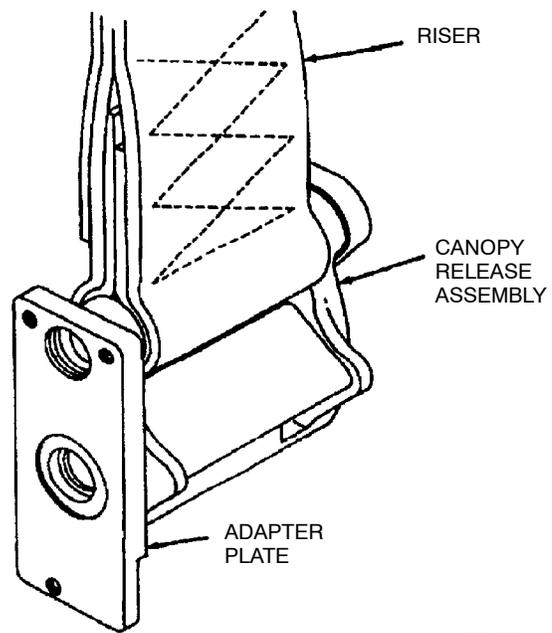

Figure 15. Placement of Riser and Sleeve
- c. Place riser and sleeve between arms of canopy release (Figure 15).